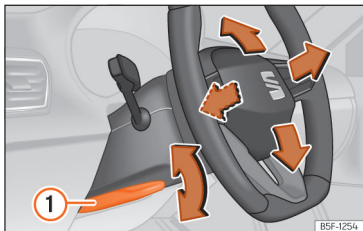

Fig. 89 Lever in the lower left side of the steering column.
- Pull lever >>> Fig. 89 ① down, move the steering wheel to the desired position and lift the lever back up until it locks.
- After adjusting the steering column, push lever >>> Fig. 89 ① firmly upwards so that the steering wheel does not accidentally change position while driving.